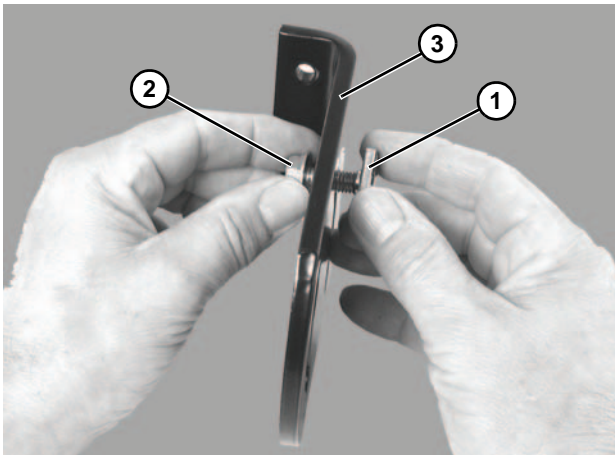

Figure 6
8. Attach nut (**Figure 6, item 1**) and flange head hex screw (**Figure 6, item 2**) to each slot of conveyor mounting bracket (**Figure 6, item 3**).